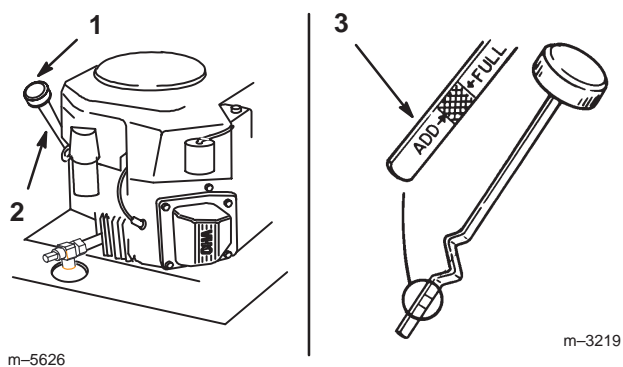

Figure 35
2. Clean around the oil dipstick (Fig. 35) so that dirt cannot fall into the filler hole and damage the engine.
3. Unscrew the oil dipstick and wipe the metal end clean (Fig. 35).
4. Slide the oil dipstick fully into the filler tube. Do not thread it onto the tube (Fig. 35). Pull the dipstick out and look at the metal end. If the oil level is low, slowly pour only enough oil into the filler tube to raise the level to the full mark.
5. Slowly pour approximately 80% of the specified oil into the filler cap (Fig. 35). Refer to Servicing the Engine Oil, page 30.